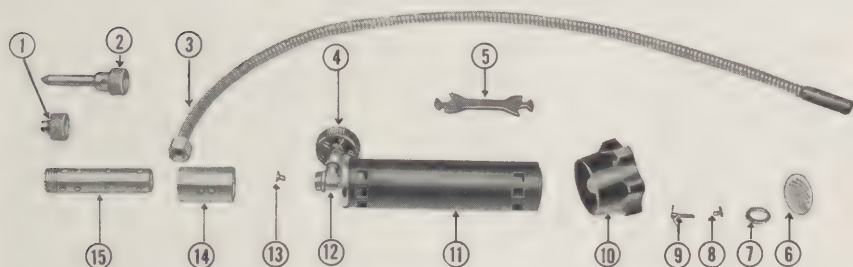

Figure 16. Leak detector.
**a. Filling Leak Detector.** The leak detector when filled and properly used will accurately detect the presence of Freon 12 refrigerant. To fill the leak detector proceed as follows: (fig 16).
- (1) Open the fuel tank by removing the base. Fill the tank with plain uncolored gasoline. Do not use alcohol or colored gasolines because these fuels may cause the detector to become clogged. The tank should be filled slowly in order to permit the wick in the tank to soak up the gasoline. Too rapid filling will reduce the amount of charge and materially cut down the burning time of the leak detector. Screw the base on tightly so the fuel will not leak out.
- (2) See that the regulating valve is shut by turning the regulating valve hand wheel all the way to the right.
- (3) Stand the detector upright and fill the priming cup about  $\frac{1}{2}$  full with white gasoline and ignite.
- (4) After the priming fuel has burned out, open the regulating valve hand wheel slightly and touch a lighted match to a hole in the burner tube.
- (5) The vapor in the burner tube will ignite causing a hissing noise. Pressure and heat have been produced in the fuel tank by the heat and the burning gasoline in the priming cup. Gasoline from the fuel tank has vaporized under this heat and burns in the tube.
**c. Cleaning the Detector.** To clean the leak detector proceed as follows: (fig 16).
- (1) To clean the burner tip remove the tip from the detector using the wrench provided for this purpose.
- (2) Insert tip cleaner wire in large opening of tip and force through burner tip hole. (Tip cleaner, extra tip and gasket will be found in the bottom of the base under the round brass plate.)
- (3) Keep the holes in the burner tube clear of soot.
- (4) Make sure that the burner tube is screwed down tightly on the detector and there is no leakage around the regulating valve.
**d. Using Leak Detector as a Blow Torch.** To use the leak detector as a blow torch proceed as follows: (fig 16).
- (1) Unscrew and remove the burner tube from the detector.
- (2) Remove the brass coupling that holds the sampling hose by slipping the coupling off the burner tube.
- (3) Reinstall the burner tube and screw it down tightly. The leak detector can now be used as a blow torch.
- (4) Fill the detector as outlined in par 39 a.
- (5) If a narrow flame is desired screw the flame reducer on the end of the burner tube.